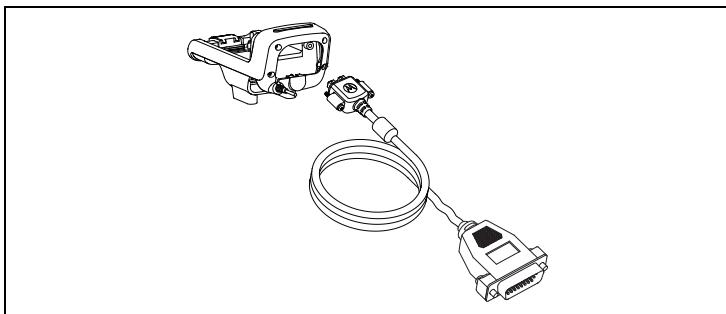

Figure 3: Installing the Cradle to Junction Box Cable onto the Cradle
9. Secure the Cradle to Junction Box Cable (PMKN4169) or Cradle to Junction Box Cable with USB Data Cable (PMKN4170) onto the bottom of the cradle pocket by screwing the jack screw onto the insert nut as shown in Figure 3 below.